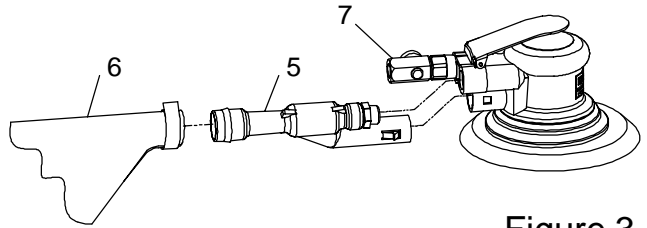

Figure 3
1. Remove Muffler (2) and Plug (4).
2. Install the Eductor Assembly (5). Insert the tapered section of the Eductor Assembly into the Housing (1) while aligning the threaded section with the Housing. Using a wrench on the flats, tighten the threaded
3. Install the Vacuum Bag (6) on the Eductor Assembly (5). See Figure 3.